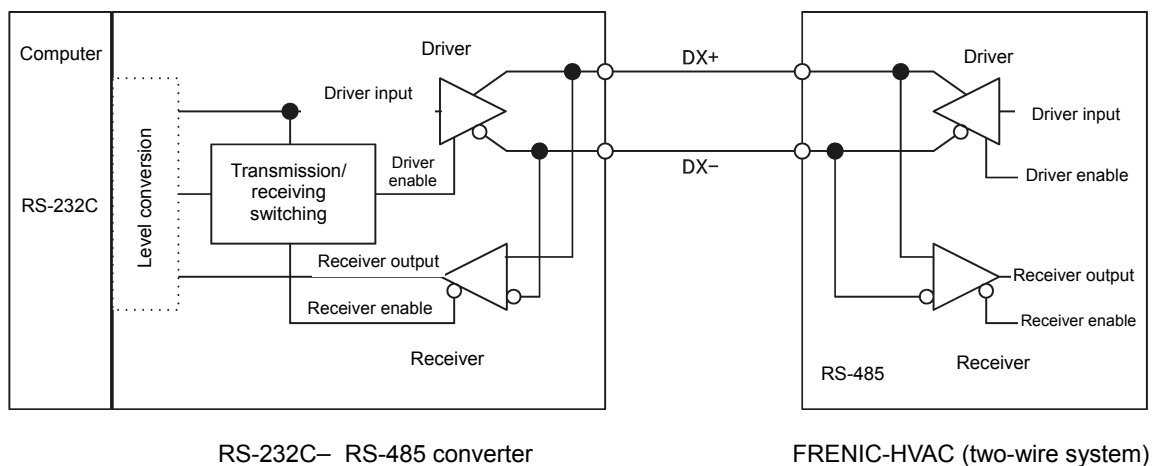

Figure 8.3 Communications Level Conversion
* The fail-safe facility refers to a feature that ensures the RS-485 receiver's output at "High" (logical value = 0) even if the RS-485 receiver's input is opened or short-circuited or all the RS-485 drivers are inactive. Refer to Figure 8.3.